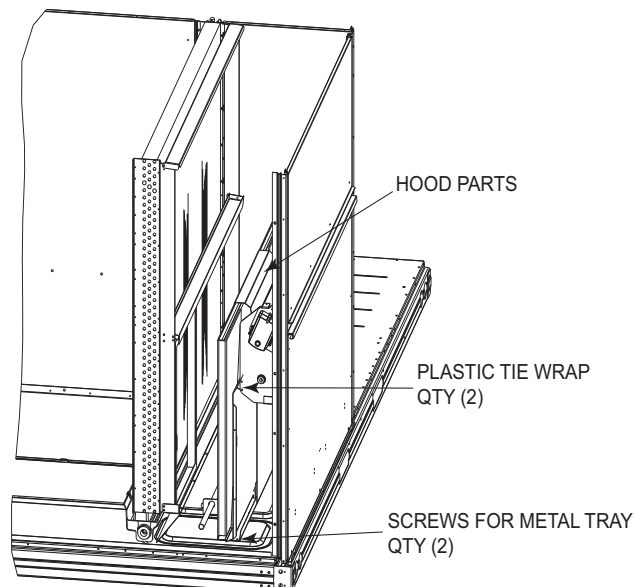

Fig. 14 — Two-Position Damper Hood Package Location
3. Locate the two screws holding the metal tray to the basepan and remove. In order to remove the screws, it may be necessary to remove the panel underneath the two-position damper. Remove the two screws. Locate and cut the two plastic tie-wraps securing the assembly to the damper. (See Fig. 14.) Be careful not to damage any wiring or cut tie-wraps securing any wiring.